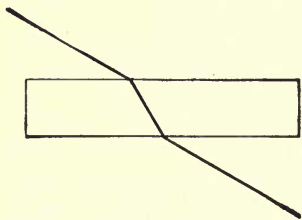

FIG. 64.—Refraction of Light.
**113. Refracted Light.**—Light travels faster in a rare than in a dense substance. Therefore when a ray passes from a rarer to a denser substance, it is bent on entering and on leaving the denser substance, and in both cases the refraction or bending is toward its base (Fig. 64). When light passes from the air through water or a prism, the rays are bent.